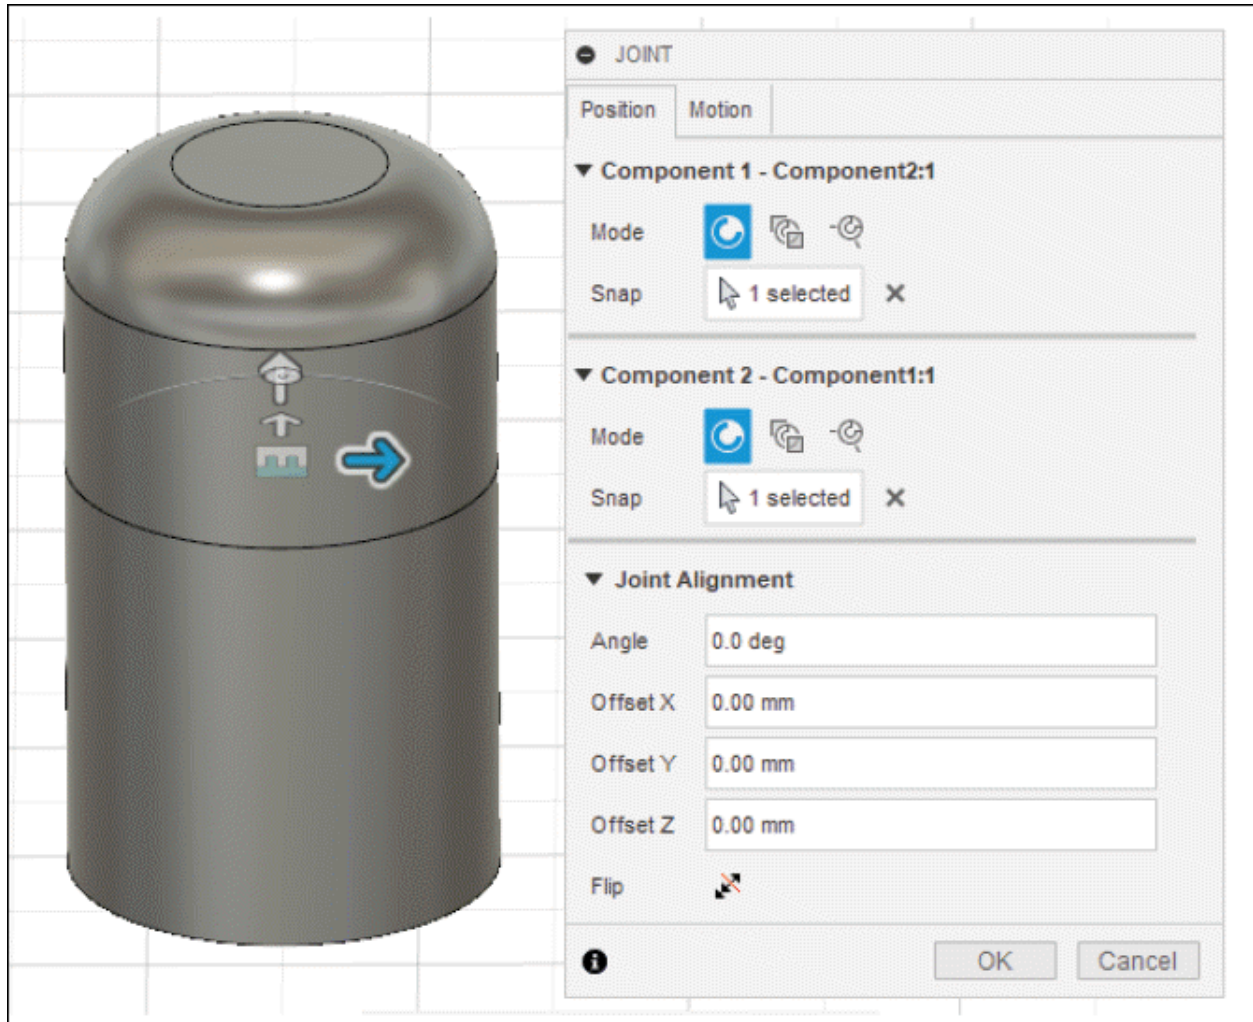

Figure-14. Components joined with updated JOINT dialog box
- On selecting the second component, the selected two component will be joined to each other at the locations selected on them and the updated **JOINT** dialog box will be displayed; refer to Figure-14.